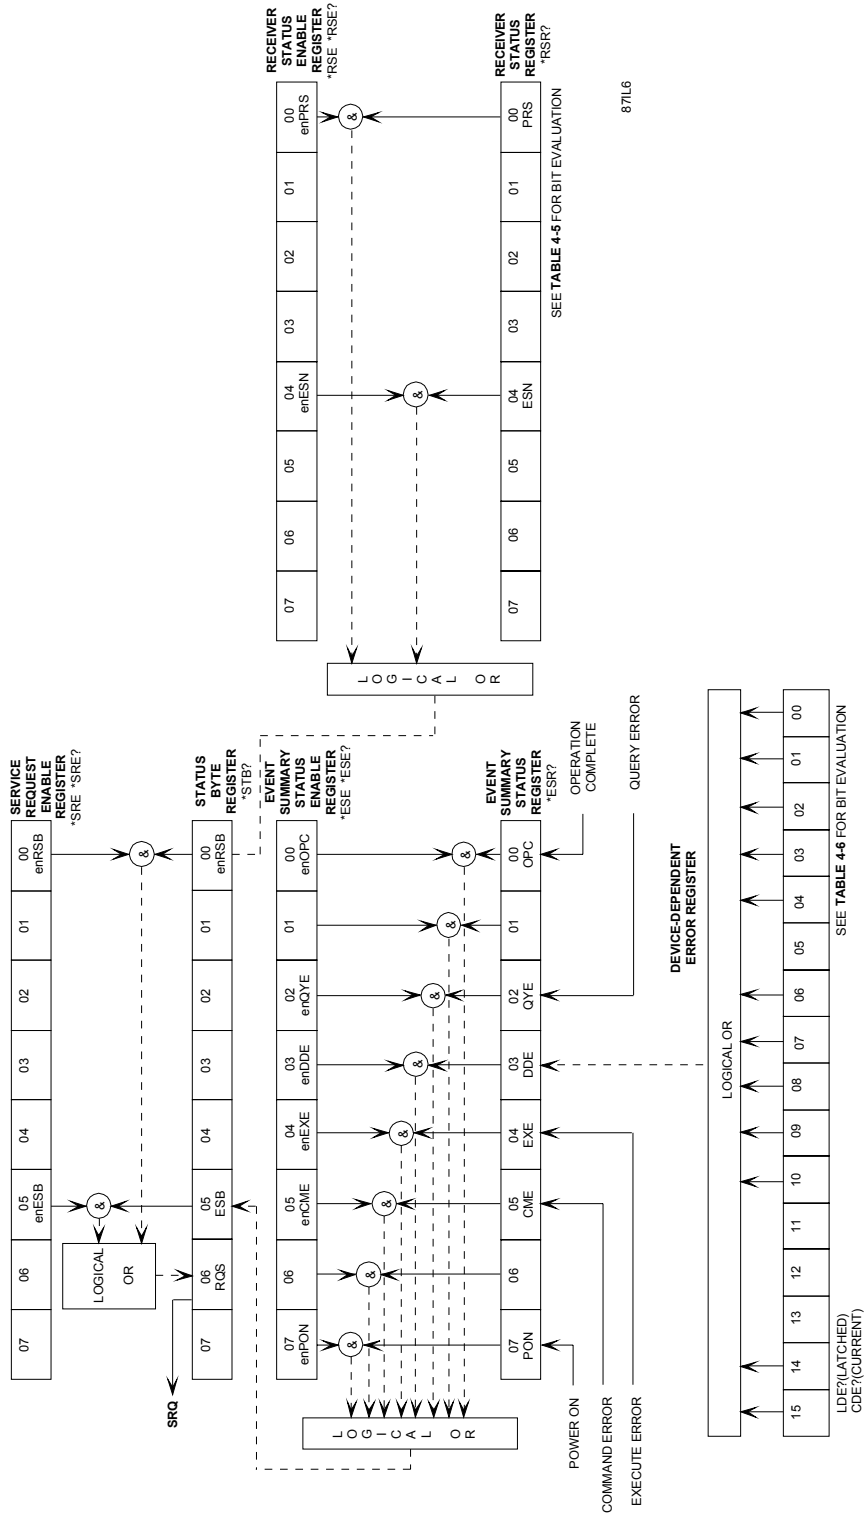

Figure 4-1. Receiver Status Data Structure
**Figure 4-1** illustrates the architecture of the receiver's status registers. It is composed of six eight-bit registers and one 16-bit register, whose logic gating allows the programmer great flexibility in remote operations. The eight bit registers can be split into three pairs. Each pair consists of a status register and an enable register.